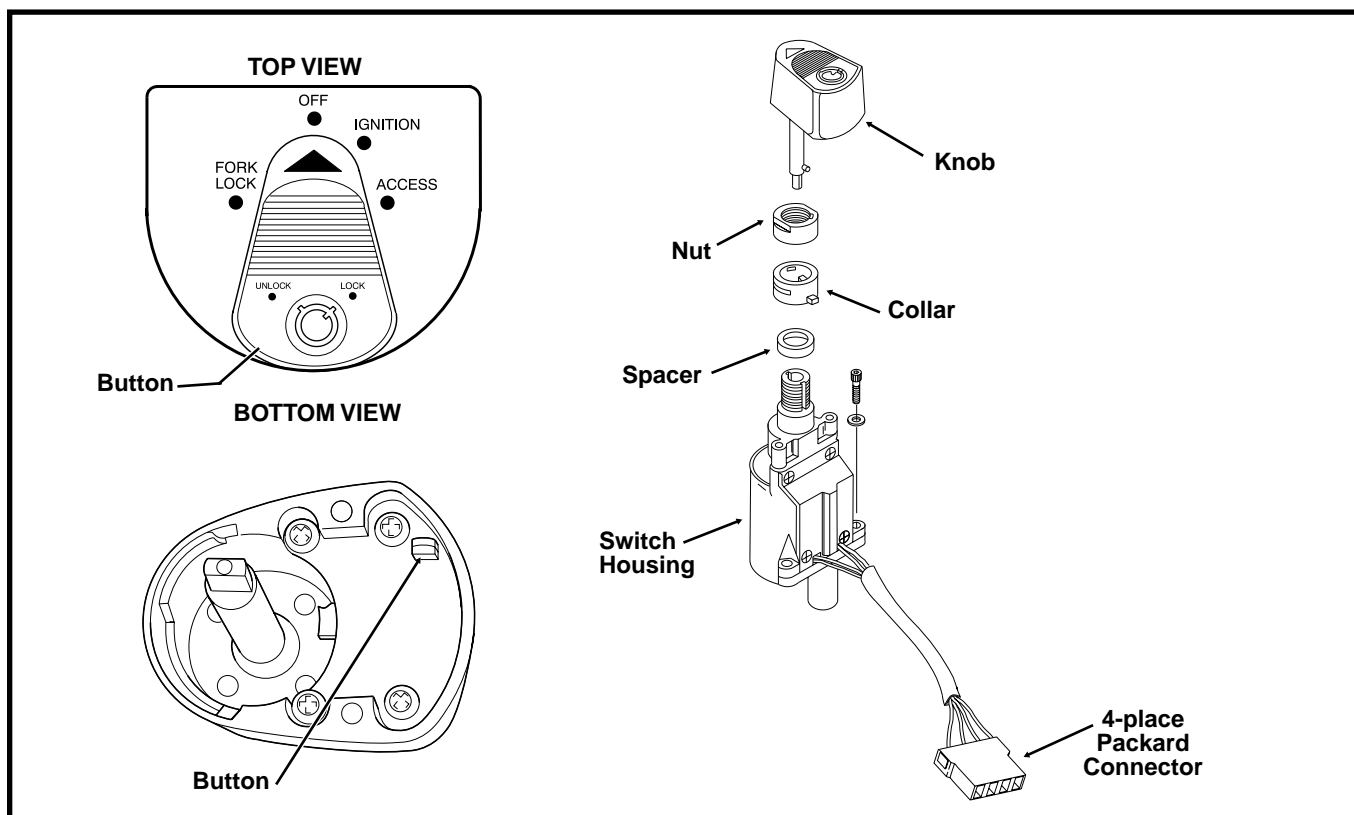

Figure 3. Ignition Switch
20. To remove the ignition switch knob, first turn the Ignition Switch key to UNLOCK and then turn the knob to ACCESS. Depress the release button at bottom (left side) with a small screwdriver, and while pushing key down, turn 60 degrees in a counter-clockwise direction. Lift and remove knob, See Figure 3.
36. Slide spacer over threaded post of ignition switch housing until it contacts switch position plate. Slide collar over post with the tab side down (and forward). Install nut, and using a 7/8 inch wrench on flats, tighten until snug. See Figure 3.